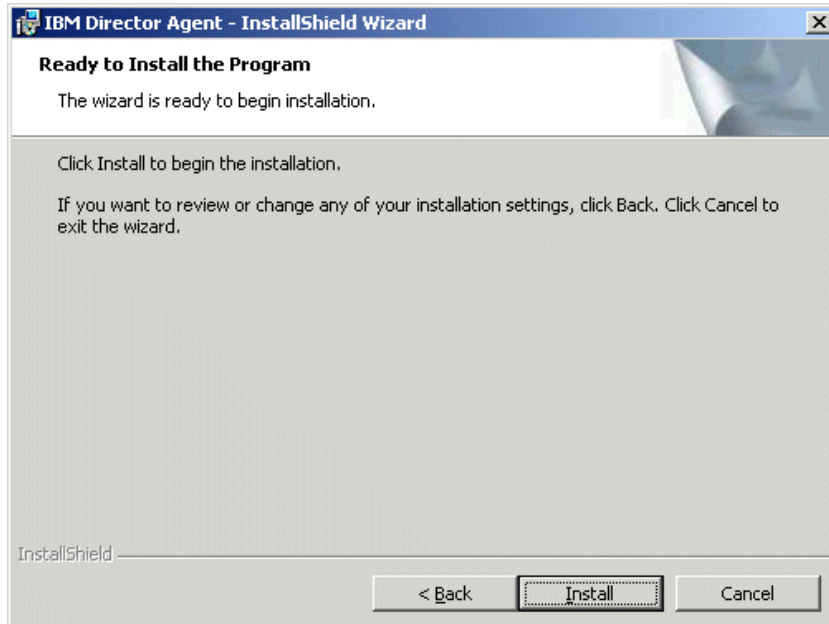

Figure 4-18 Ready to Install the Program window
10. The Web Server window opens. Accept the defaults for the HTTP port numbers and click **Next**. You will see a window similar to Figure 4-18.